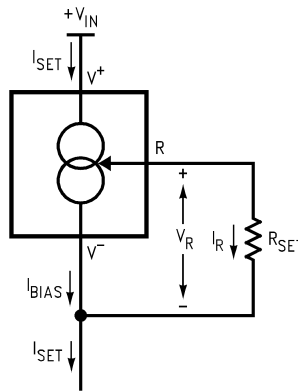

Figure 13. Basic Current Source
- (1) Unless otherwise specified, tests are performed at $T_J = 25^\circ C$ with pulse testing so that junction temperature does not change during test
- (2) Set current is the current flowing into the V^+ pin. For the Basic 2-Terminal Current Source circuit shown in Figure 13. I_{SET} is determined by the following formula: $I_{SET} = 67.7 \text{ mV}/R_{SET}$ (@ $25^\circ C$). Set current error is expressed as a percent deviation from this amount. I_{SET} increases at $0.336\%/^\circ C$ @ $T_J = 25^\circ C$ ($227 \mu V/^\circ C$).
- (3) I_{SET} is directly proportional to absolute temperature ($^\circ K$). I_{SET} at any temperature can be calculated from: $I_{SET} = I_o (T/T_o)$ where I_o is I_{SET} measured at T_o ($^\circ K$).
The total current through the LM134 (I_{SET}) is the sum of the current going through the SET resistor (I_R) and the LM134's bias current (I_{BIAS}), as shown in Figure 13.